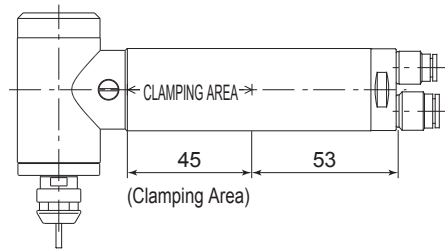

Fig. 9
- ① When mounting an Air Motor Spindle, refer to the Clamping Area etched on the Air Motor Spindle. (Fig. 9)